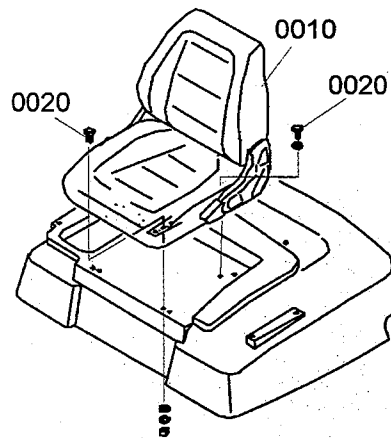

Fig63-00:
2. Fig63-00: Remove the bolts (0020), then remove the seat assembly (0010).